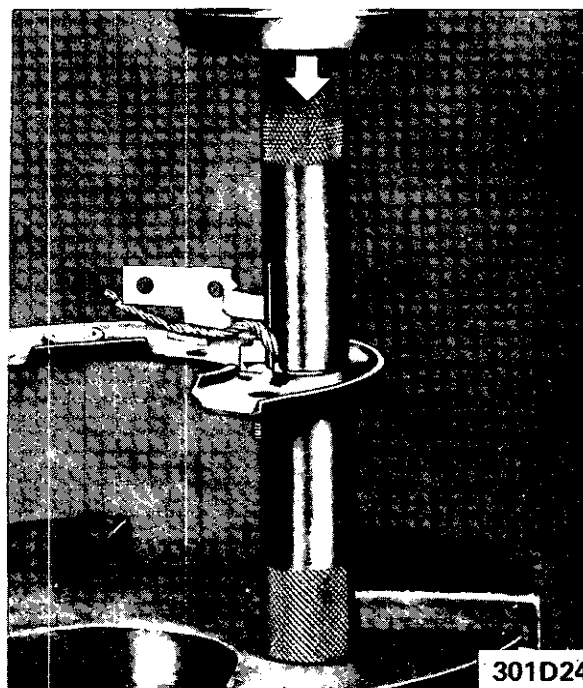

Figure 1D-24 Installing Diode
1. Press new diode into diode support. See Figure 1D-24.
1. Using Tool J-23526, press diode into support. See Figure 1D-25. Insert negative diode pigtail lead through tool pilot.